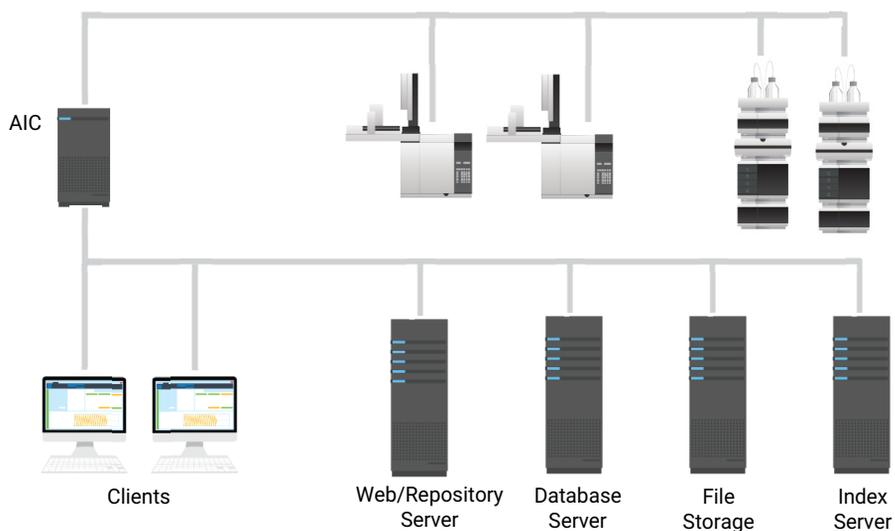

Figure 3 4-Server topology: For high-load environments with multiple AICs
- 4-server system (see Figure 3 on page 11)